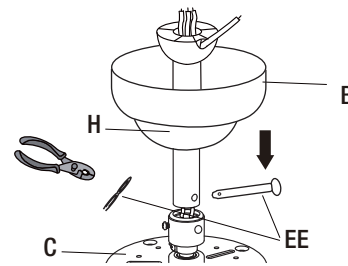

Figure 4
- Remove the split pin and pivot pin (EE) from the loose part bag and set them aside for later restoration.
- Place the downrod assembly (H) through the ceiling canopy (B). (Figure 4)
- Carefully feed the fan wires up through the downrod assembly (H).